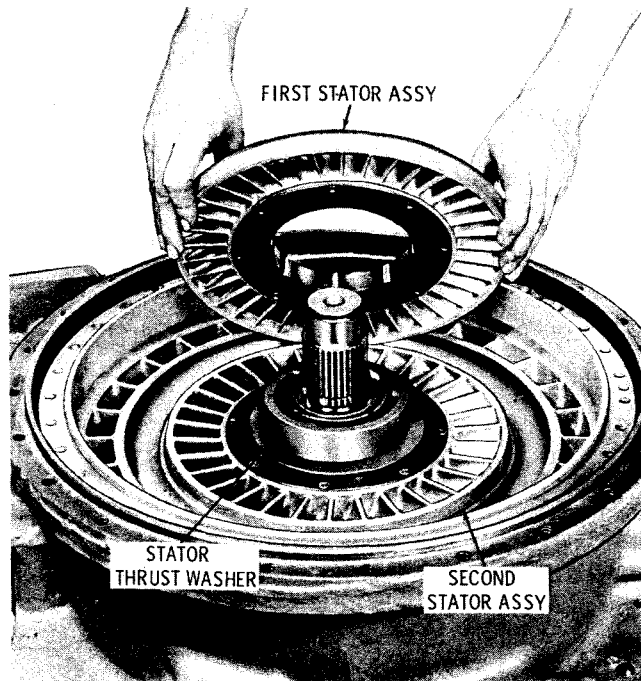

Fig. 5-17. Removing first-stator assembly (5630, early 5631 models)
(9) From 5630 models and early 5631 models, remove the first-stator assembly, stator thrust washer, and second-stator assembly (fig. 5-17). Refer to paragraph 6-11 for stator rebuild procedures.